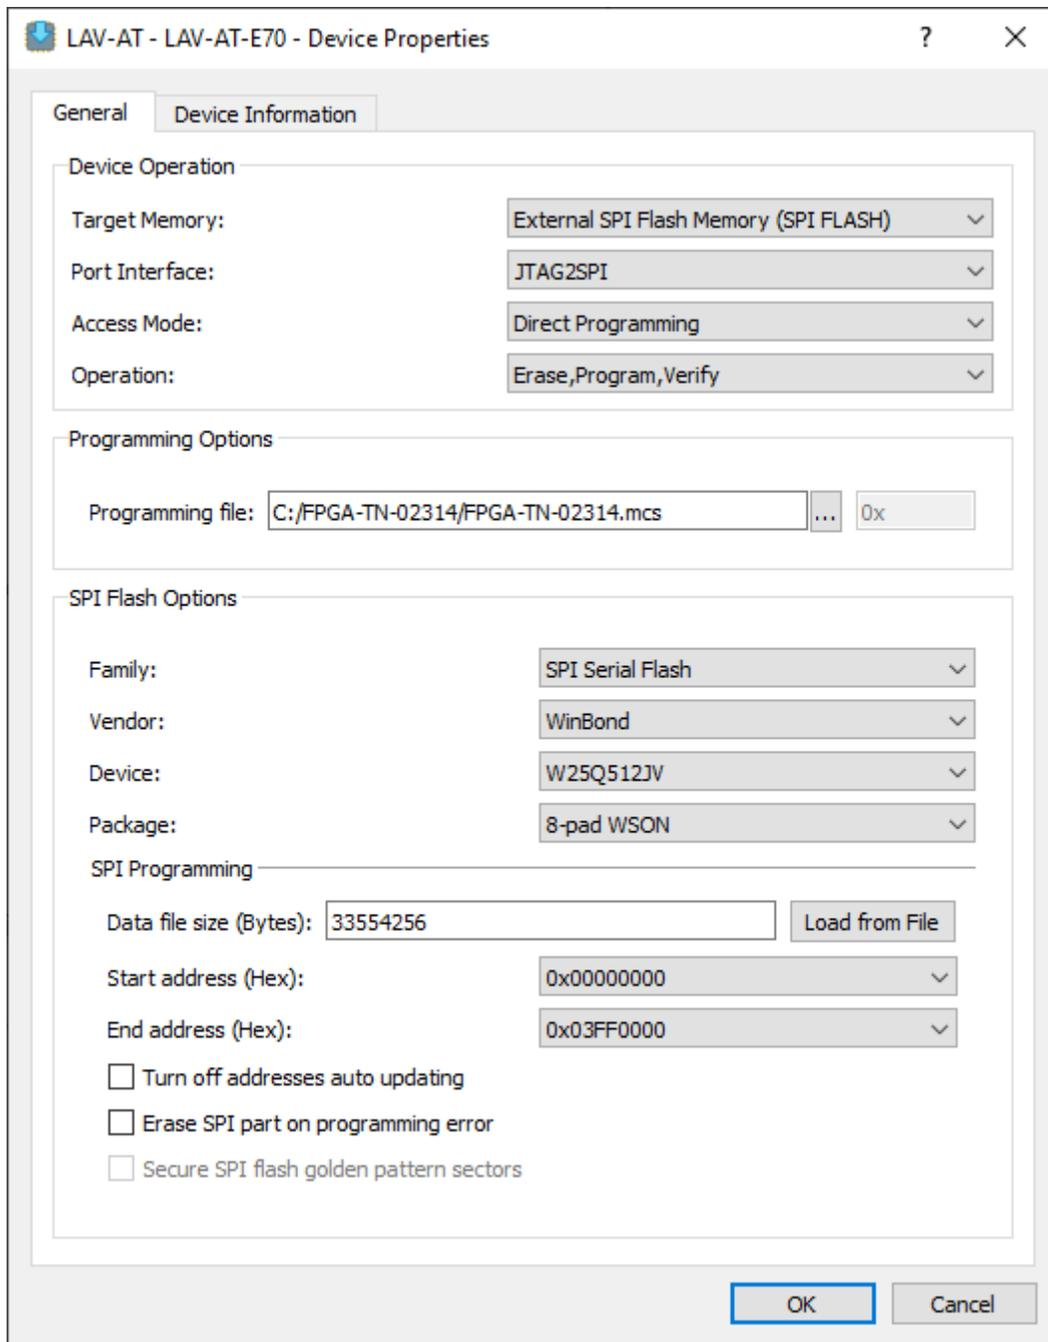

Figure 5.2. Radiant Programmer – Device Properties
5. The **Device Properties** window opens (Figure 5.2).
Programming the Dual Boot Pattern into the SPI Flash Device	<ul style="list-style-type: none"> <li>Updated the software version to 2023.2.</li> <li>Updated <a href="#">Figure 5.2. Radiant Programmer – Device Properties</a> reflecting the Avant product name change in the software GUI.</li> </ul>